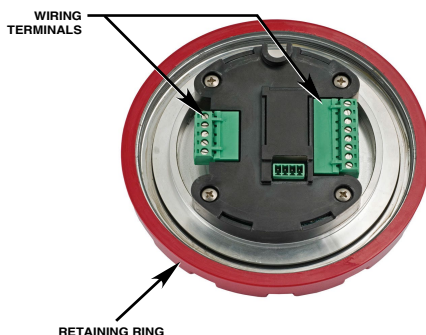

Figure 7—Location of Wiring Terminals
1. Unscrew the retaining ring to gain access to the wiring terminals (see Figure 7) and complete the installation of the system conduit. Feed the external wiring through the remaining junction box entry or M25 to 3/4 inch adapter. When installing the junction box, use care not to damage the wires and refrain from twisting them.